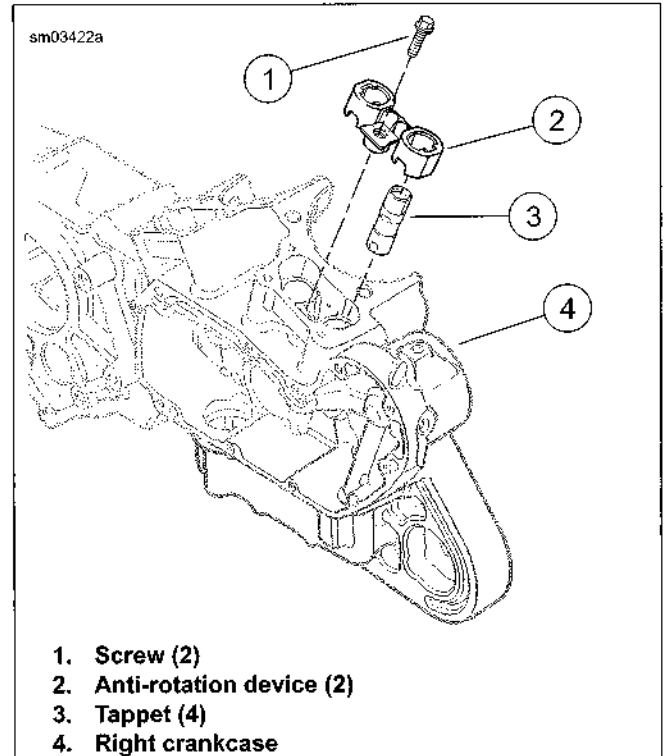

Figure 3-79. Tappet Components
1. See Figure 3-79. Remove screw (1).
2. Remove anti-rotation device (2). Tag anti-rotation device for location (front/rear cylinder) as it is removed.
3. Remove tappet (3). Tag tappet for location (front/rear cylinder) and function (intake/exhaust) as it is removed. This will simplify installation.